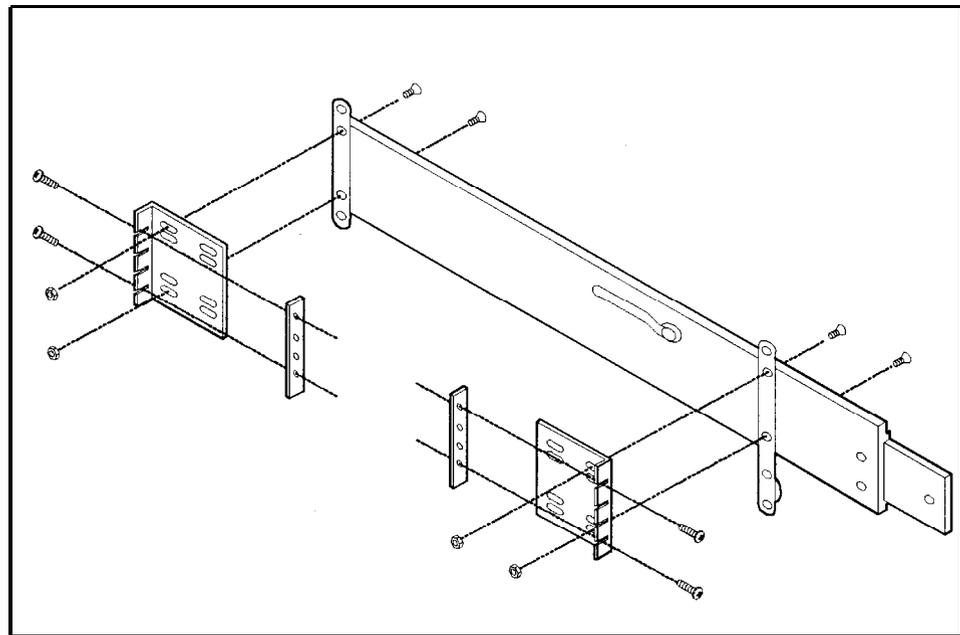

Figure 2-14. Slide Adapter for Non-HP System Rack Cabinets
- a. Using hole pattern "B," see Figure 2-14, attach one adapter bracket to the front of each outer slide mount, using two M4x0.8x12 flat-head screws and nuts per bracket.